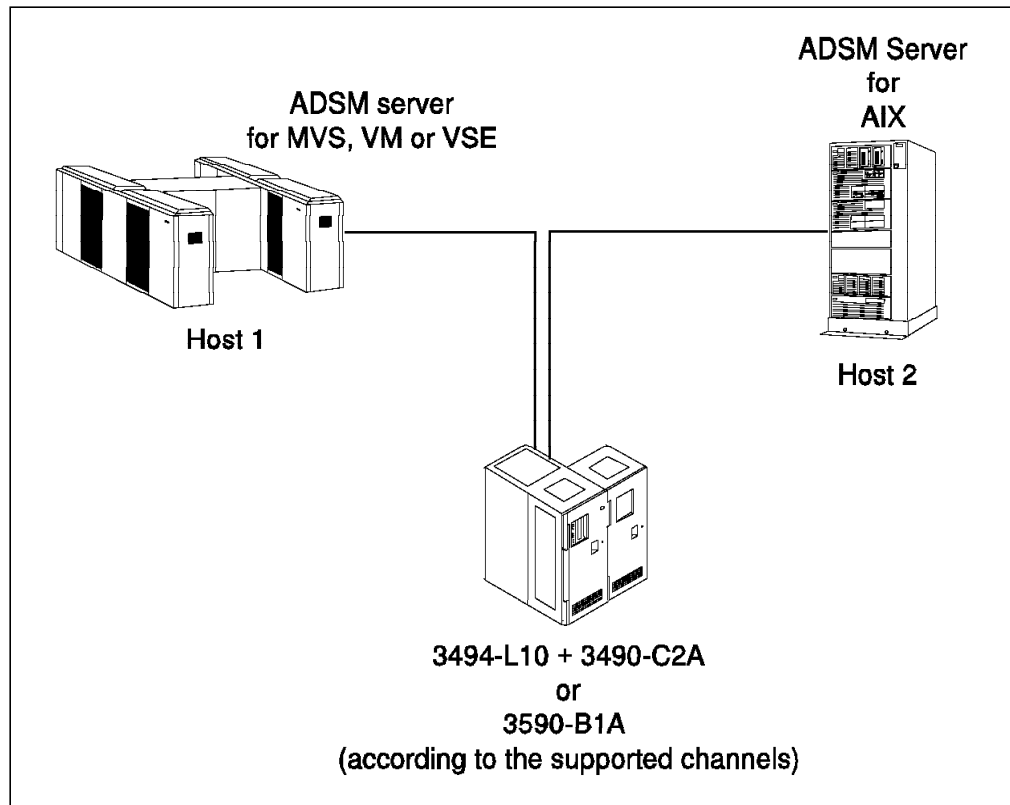

Figure 78. Partitioning between ADSM/6000 and an MVS, VM or VSE ADSM server.
**AIX and MVS, VM, VSE ADSM Servers:** See Figure 78.